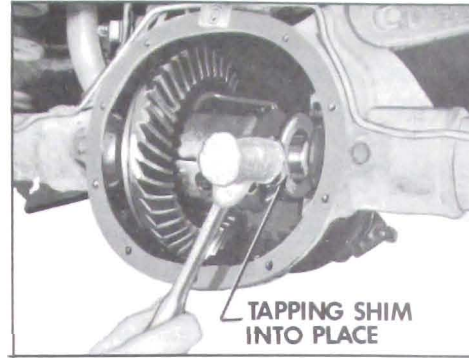

Fig. 6-31—Installing Differential Adjusting Shim
2. Place differential case and bearing assembly in position in carrier. If new side bearings were installed, use original adjusting shims; if same bearings are to be reused, select new right and left adjusting shims each .002" thicker than original shim. Slip left shim in position at left bearing, then drive right shim carefully into position using a soft hammer. See Figure 6-31.